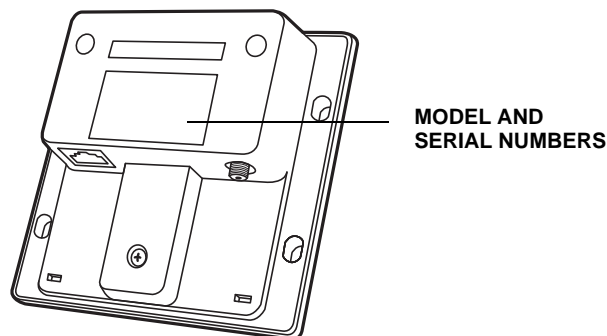

Figure 6 Information Labels on Unit Bottom
- 1 Gather the following information from the printed labels (see Figure 6) on the bottom of each unit to be returned:
- VeriFone serial number assigned to the unit you are returning for service or repair (serial numbers are located on the bottom of the unit, see Figure 6).